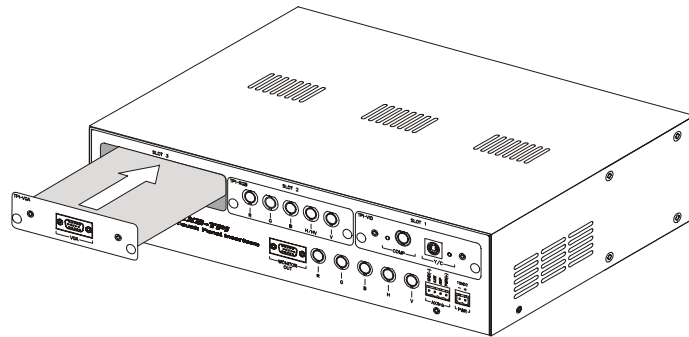

FIG. 5 Inserting an input module
4. Gently insert the module into the brackets inside the card slot and slide the input module into the enclosure until you feel it contact the slot connector, as shown in FIG. 5.